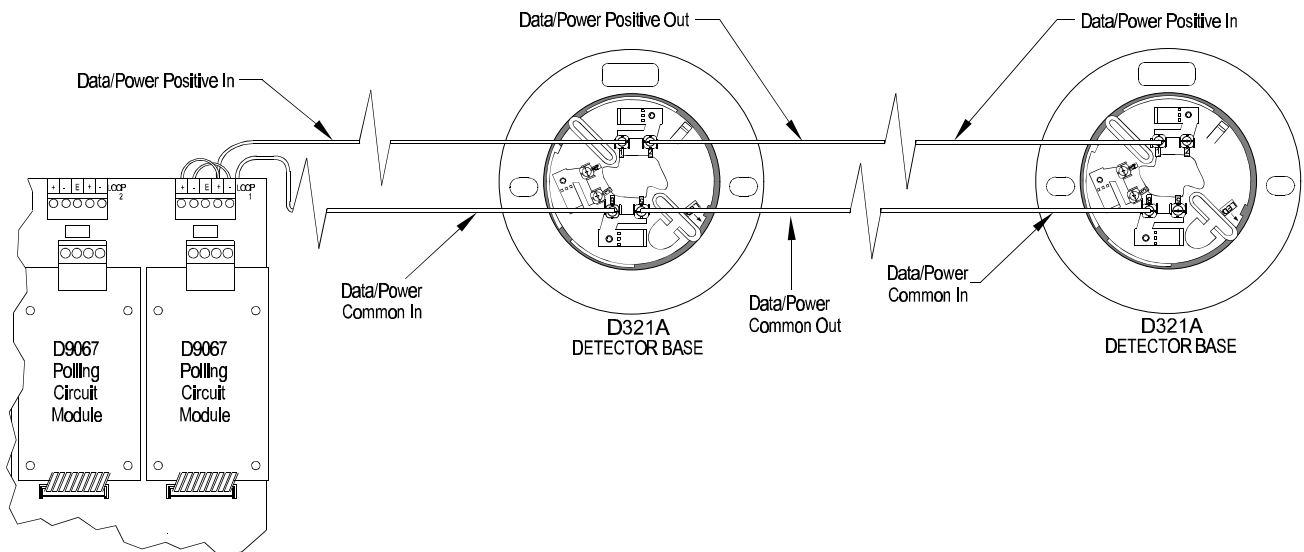

Figure 8: D9067 Class “B” (Style 4) Connection
- Connect the Data/Power Positive (+) wire of the polling circuit to the + terminal of the Data Terminal Block at the top of the Control Module. Connect the Data/Power Common (-) wire of the polling circuit to the - terminal of the Data Terminal Block. Connect the positive and negative terminals of the Data Terminal Block with jumper wires as shown in Figure 8: D9067 Class “B” (Style 4) Connection.